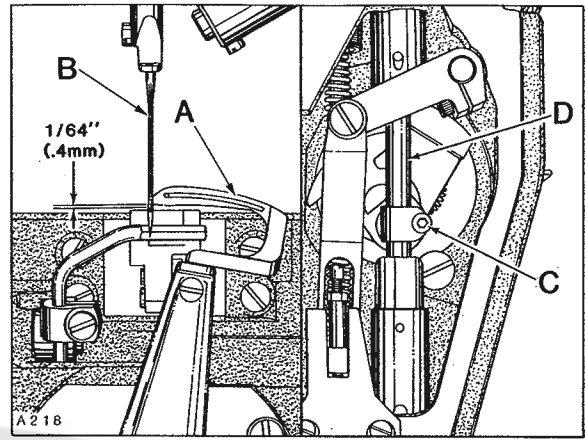

Fig. 12
Turn handwheel in operating direction until **POINT** of looper (A, Fig. 12) is even with the **LEFT** side of needle (B). **TOP** of needle eye should be 1/64 inch (.4mm) below the under surface of looper blade, as shown in Figure 12. Adjustment can be made by loosening screw (C) and move needle bar (D) up or down as required.